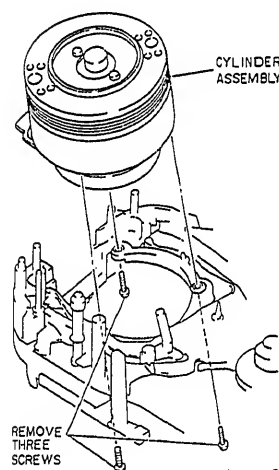

Fig. 2-79
2. Remove three (3) screws holding the cylinder assembly. (See Fig. 2-79)